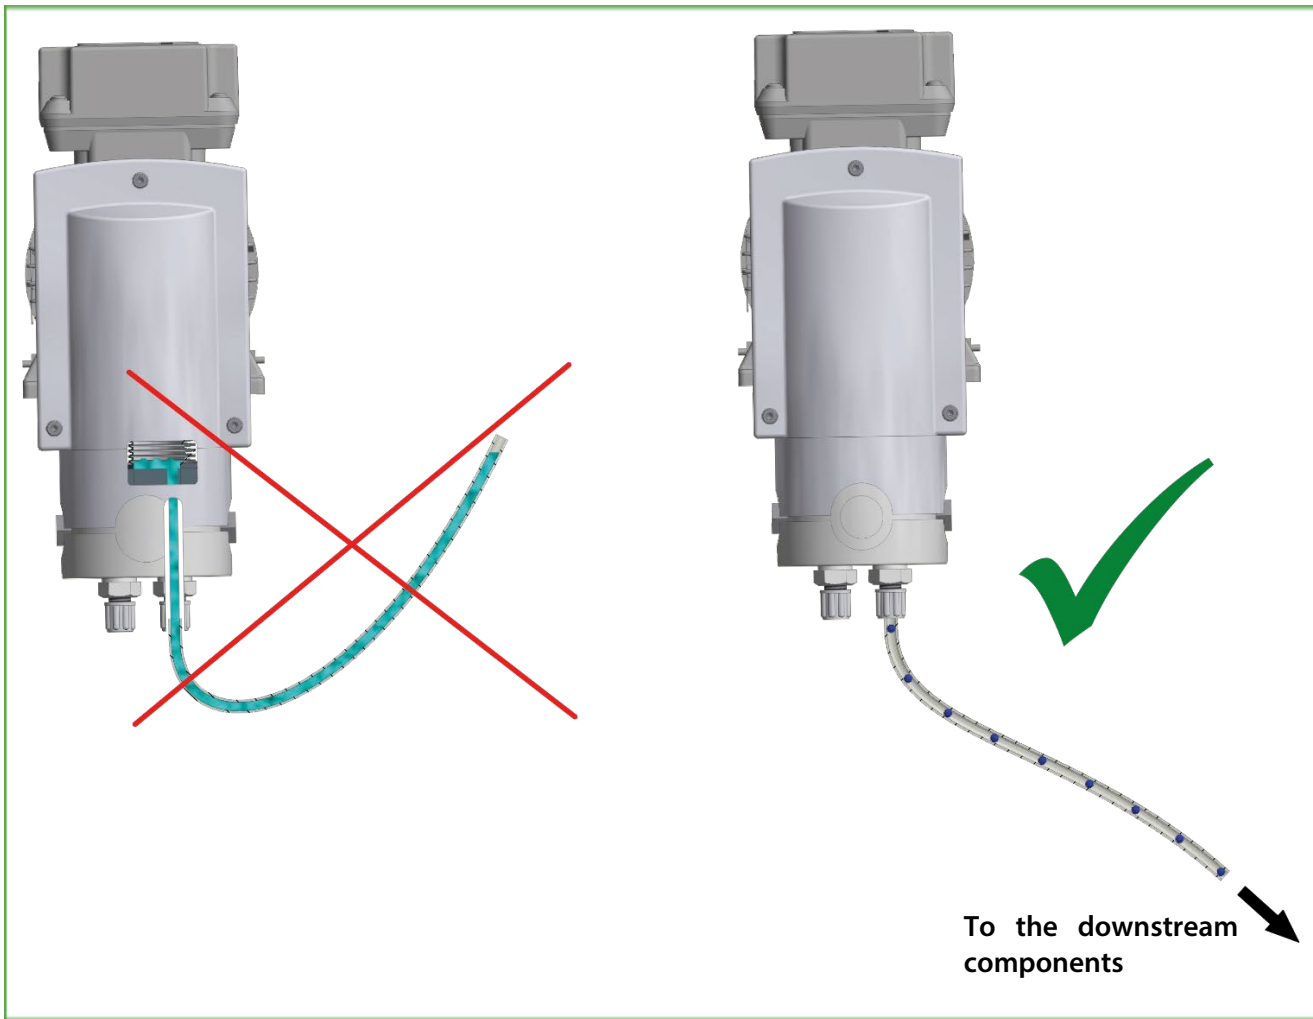

Figure 8 Pump head facing down: install outlet tubing with a downward slope
- Mount the pump at the highest point in the system. If this is not possible, route the outlet tubing away from the pump at an incline (see Figure 8).